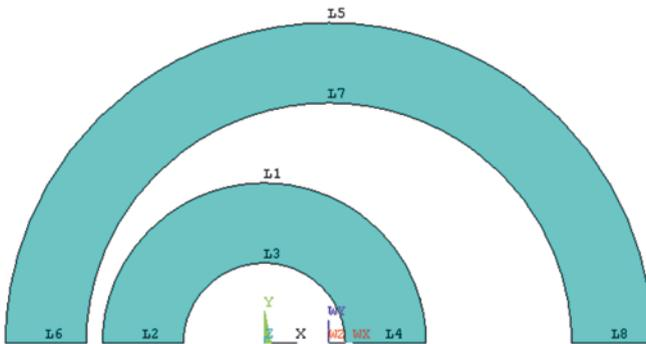

Fig. 9.66 Area plot with line numbers turned on
- *Plot Numbering Controls* dialog box appears; click on the square box next to **LINE Line numbers** so that a checkmark appears. Click on **OK**. Line numbers appear, as shown in Fig. 9.66.
- *Pick Menu* appears; pick line 1 (refer to Fig. 9.66); click on **OK** in the *Pick Menu*.